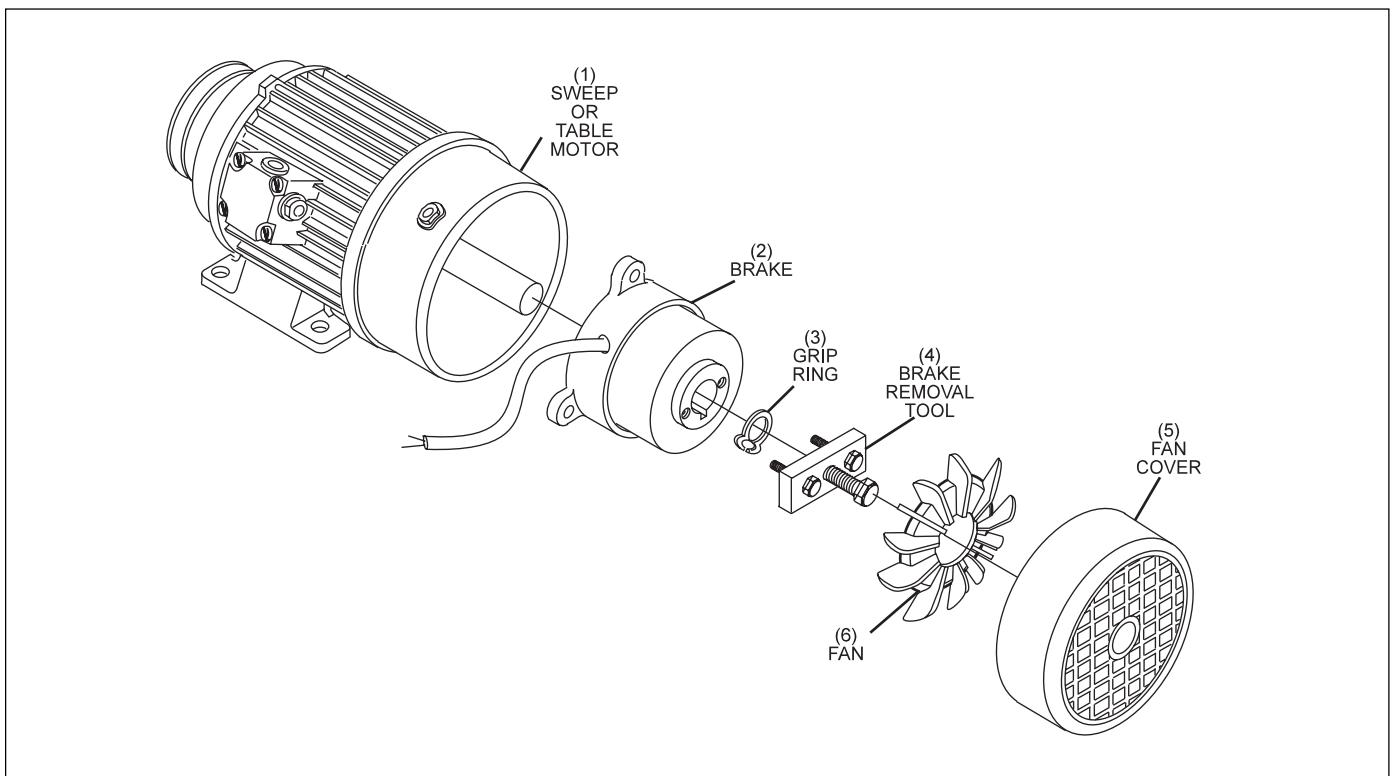

Figure 8-20. Motor Brake Replacement
4. Remove the brake wiring terminal cover and disconnect the two wires for the brake coil. Refer to *Figure 8-20*.
9. Attach the brake removal tool which can be purchased from Brunswick. Consult the Drive Frame section of your Service Parts Catalog. Refer to *Figure 8-20*.